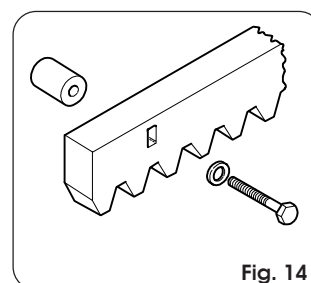

Fig. 14
4.8.2. Steel rack to be screwed (Fig. 14)